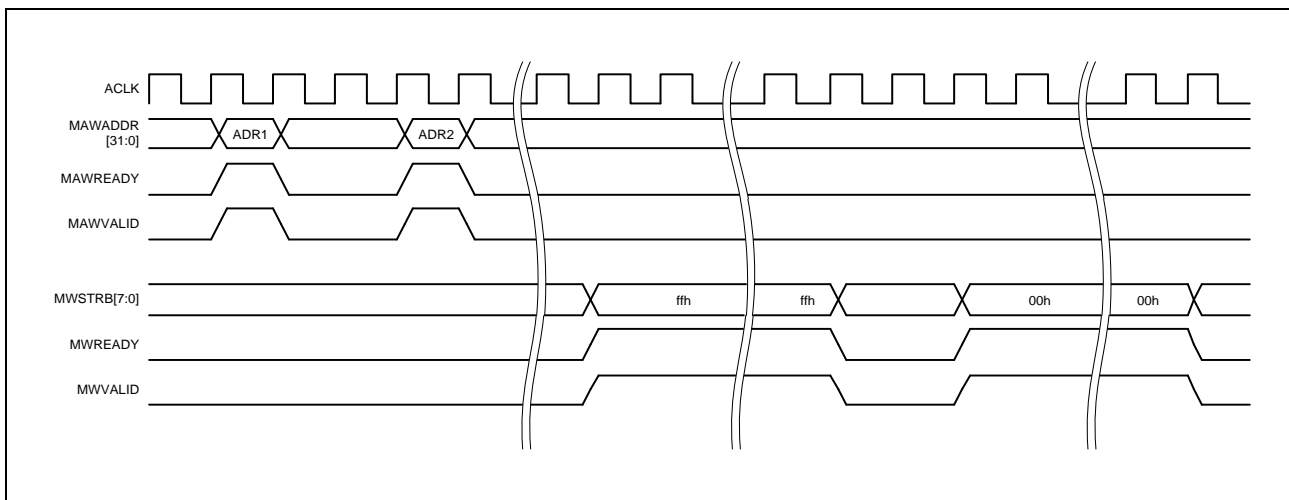

Figure 26.6-15 Write Transfer with All Zero Strobe
**Figure 26.6-15** shows the case that USB3PERI receives the short packet and it has data to transferred for ADR1 but does not for ADR2. Then, USB3PERI executes the write transfer with all zero strobe on MWSTRB[7:0] for ADR2.
In **Figure 26.6-15** the write transfer with all zero strobe starts from the head of the transfer, but MWSTRB[7:0] might be set to all zero in the middle of transfer depending on the size of the received packet.